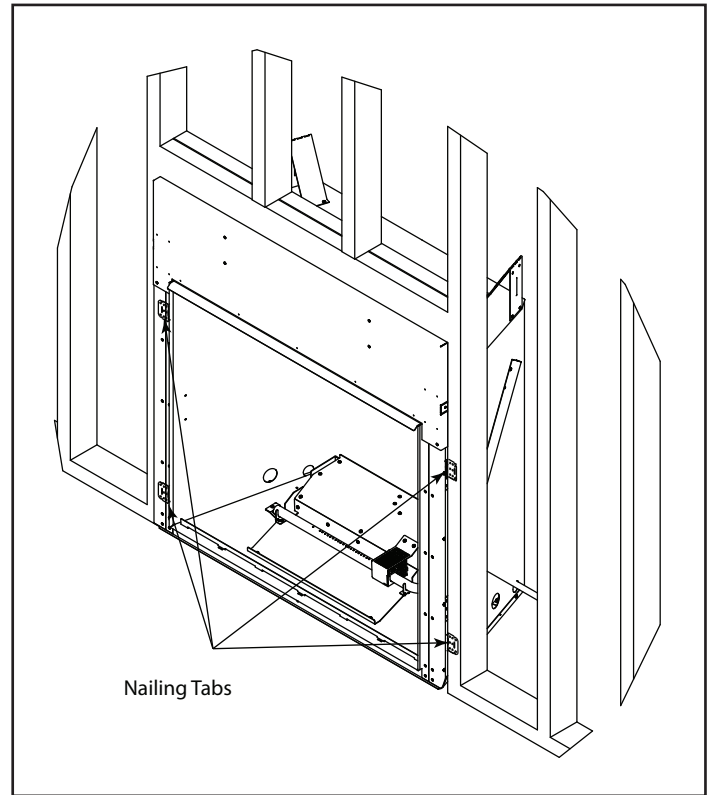

Figure 4.1. Positioning and Securing Nailing Tab
- Nailing tabs must be folded out from shipping position to installation position and secured to framing. Bend the two nailing tabs out on each side. See Figure 4.1.